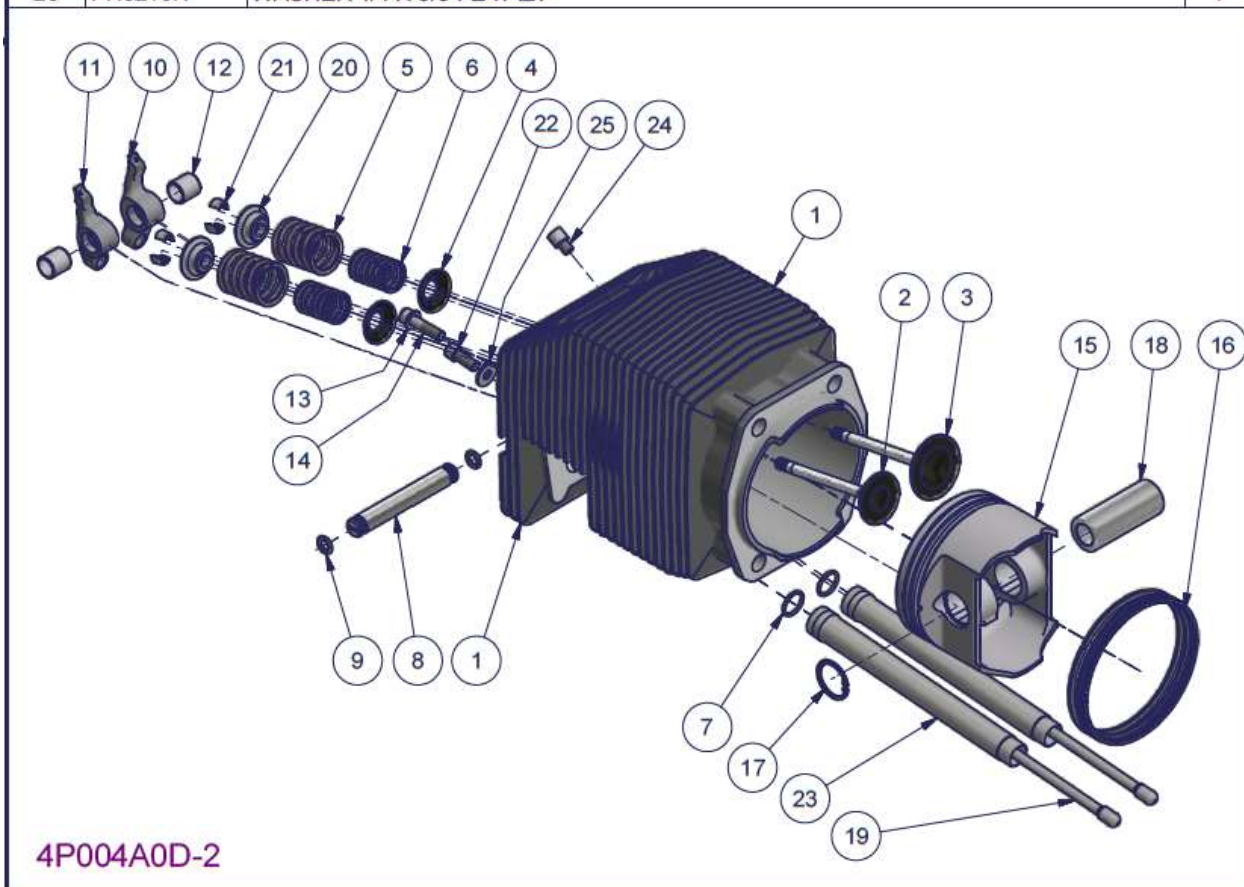

Figure 49 - 2200/3300 Cylinder subassembly - Parts list
- The **first previous cylinder head version** features the following (see Figure 49):